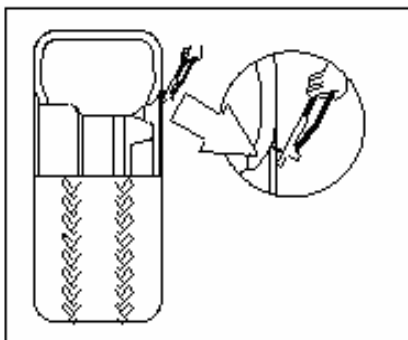

Fig.03
- I Remove all the foreign substance and weights from the rim (Fig. 03).